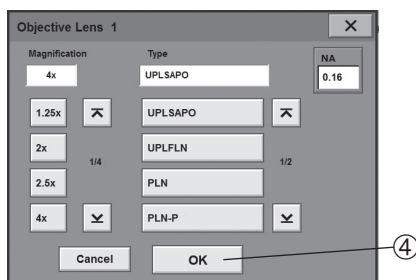

Fig. 10
3. Register the objective actually mounted on the BX63 for each revolving nose piece position. Tap one of the nosepiece position numbers in use ③ to open the [Objective Lens] screen for the position (Fig. 10).
4. Select the magnification and type of the objective and tap the **[OK]** button ④ to register them.